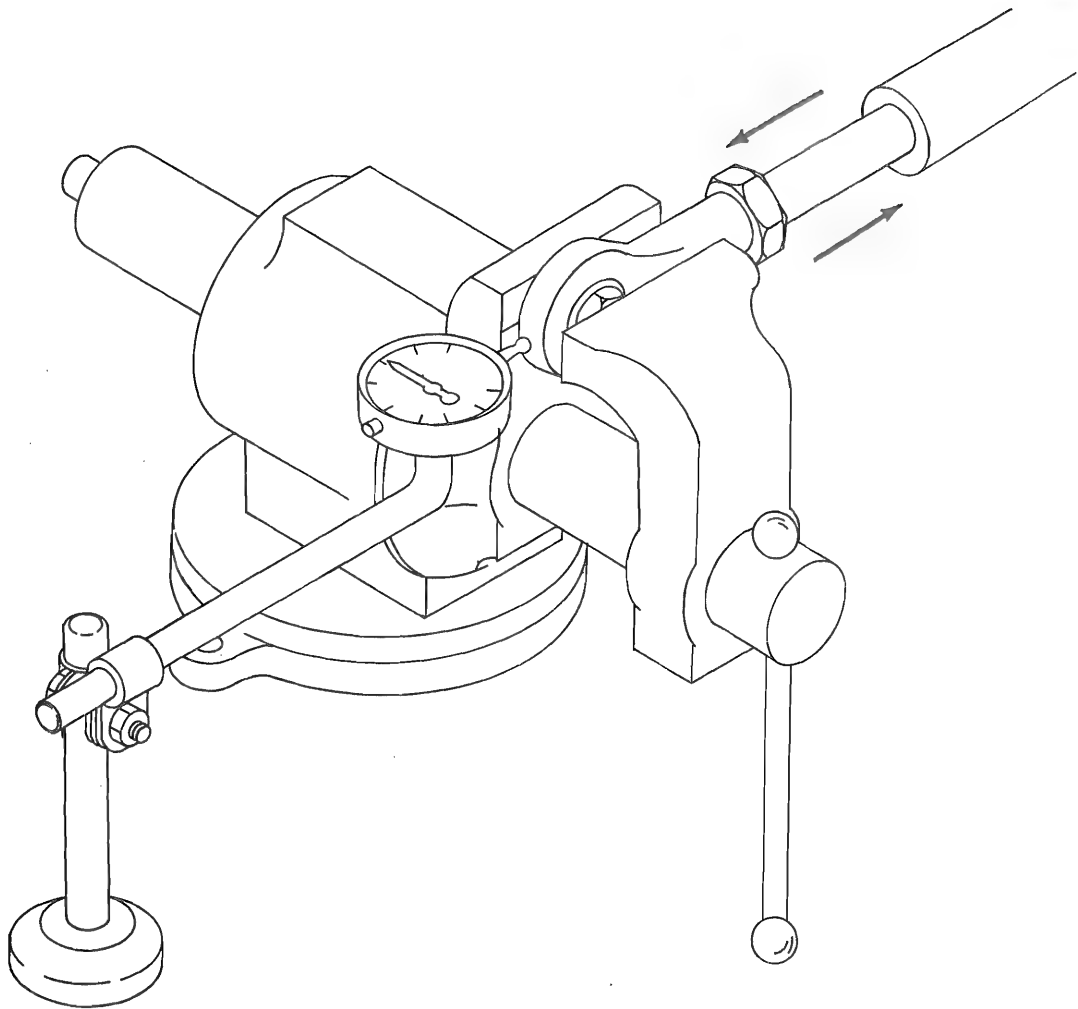

Figure 6-4. Checking Rod-End Bearing End Play
i. Measure length of link and angle setting of rod-end bearings in accordance with figure 6-4.